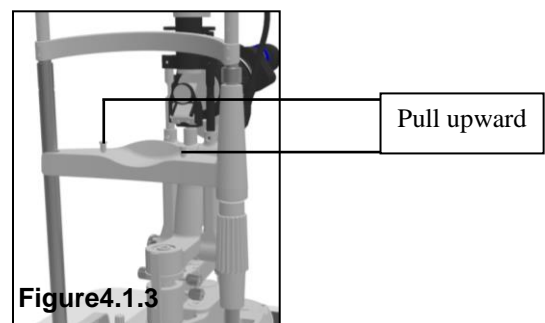

Figure4.1.3
4. Replace the chin-rest paper: When the chin-rest paper is used up, pull out the two fixing bolts on the bracket and put on the new paper, then install the fixing bolt (see Figure 4.1.3).